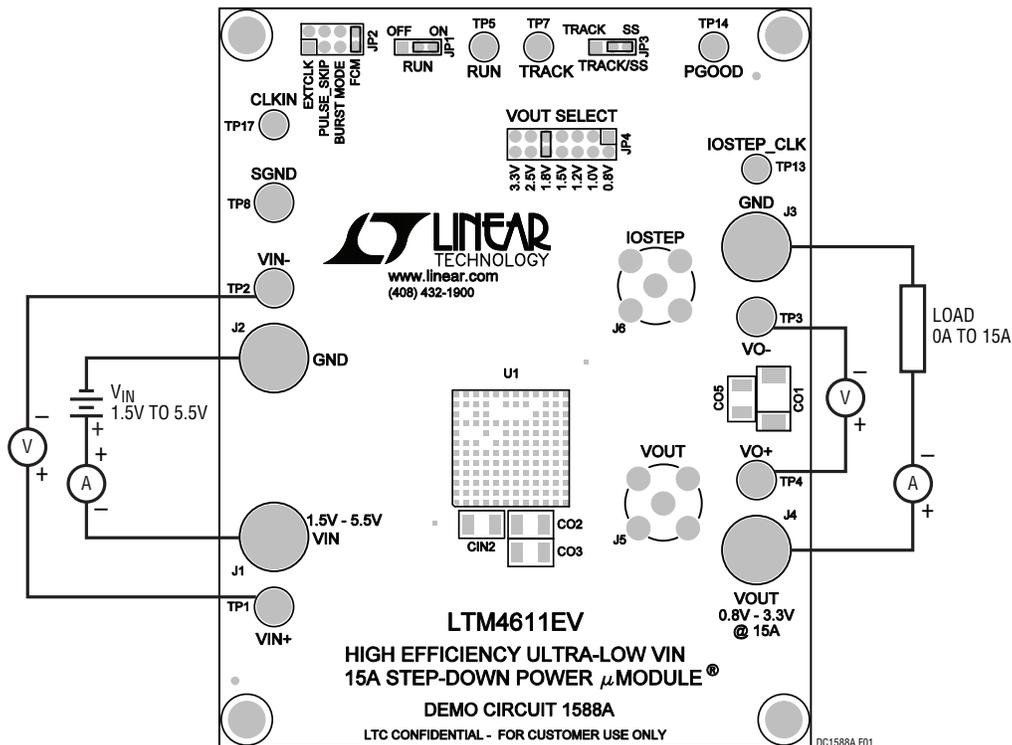

Figure 1. Test Setup of DC1588A
Demonstration circuit 1588A is easy to set up to evaluate the performance of the LTM4611EV. Please refer to Figure 1 for proper measurement equipment setup and follow the procedure below:
2. With power off, connect the input power supply, load and meters as shown in Figure 1. Preset the load to 0A and VIN supply to be 5V.